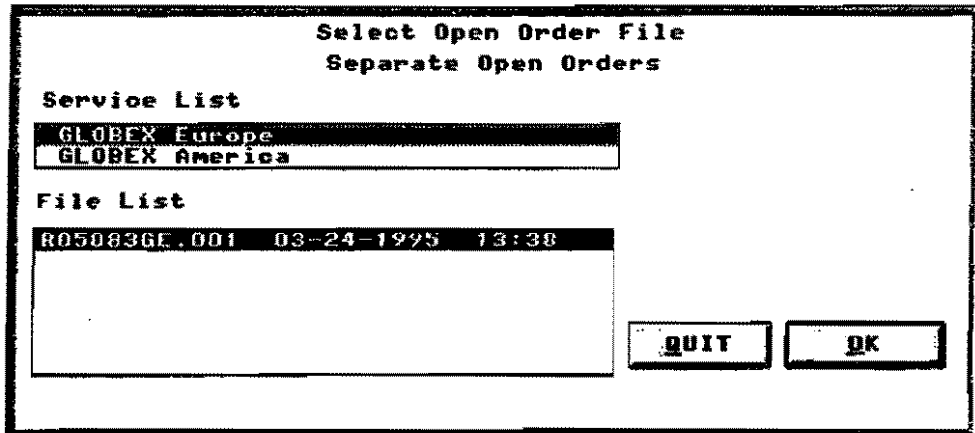

Figure 12.29 Separate Open Orders Dialog Box
1. Select **Separate Open Orders** in the Special menu to display the dialog box shown in Figure 12.29. The highest priority Service is selected, as is the